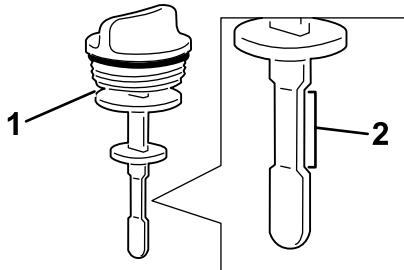

Figure 108
4. Remove the dipstick from the filler neck and check the fluid level (Figure 108).